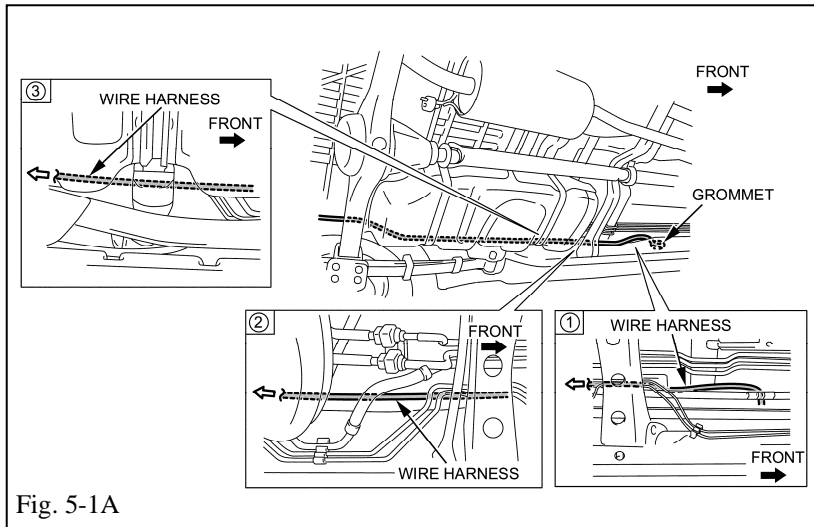
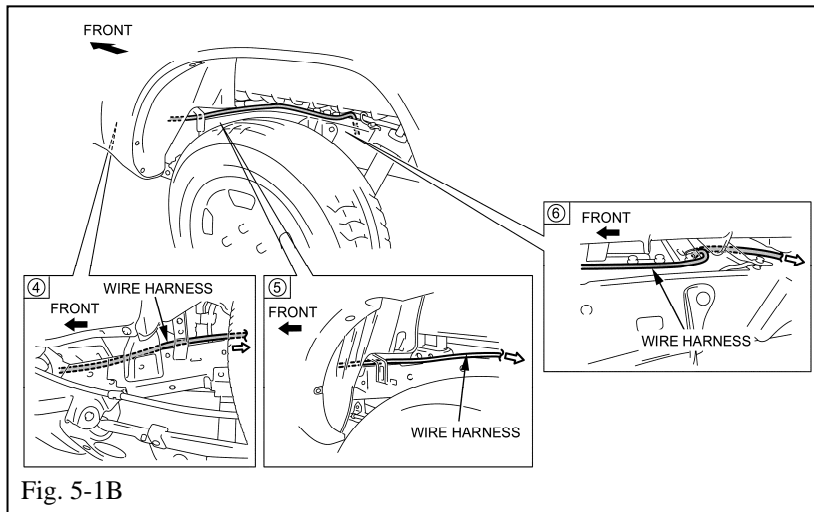

Fig. 5-1A
Fig. 5-1B
- (1) Route the 4-pin wire harness as shown in each figure. (Fig. 5-1A) (Fig. 5-1B)